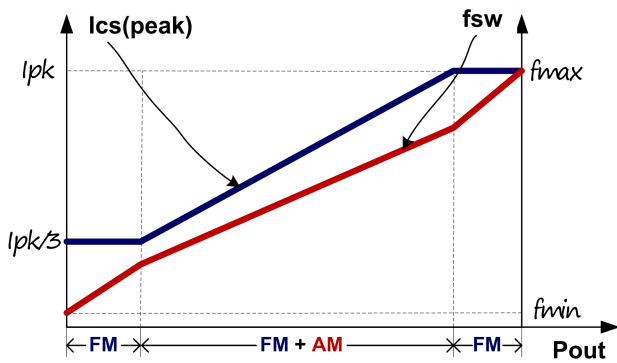

Fig.4
To meet the tight requirement of averaged system efficiency and no load power consumption, a hybrid of frequency modulation (FM) and amplitude modulation (AM) is adopted in DP1804 which is shown in the Fig 4.